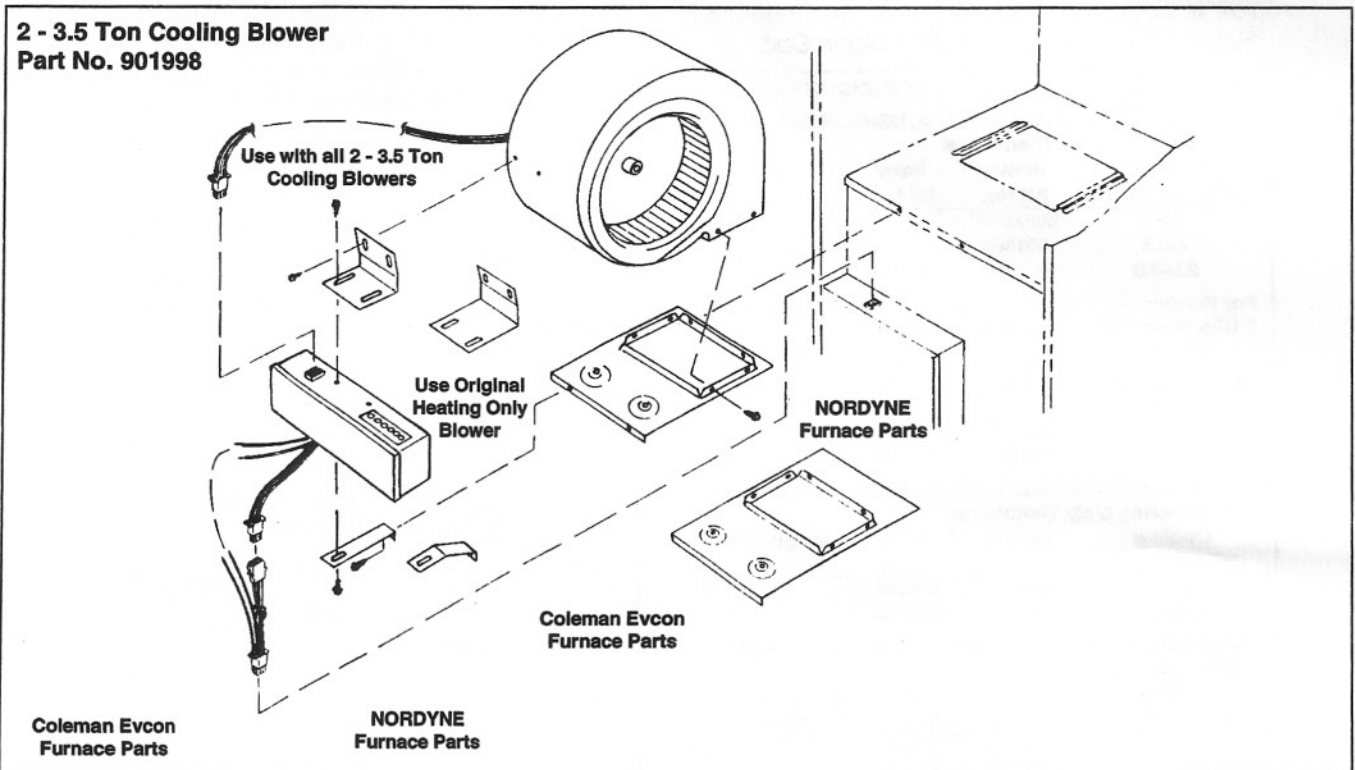
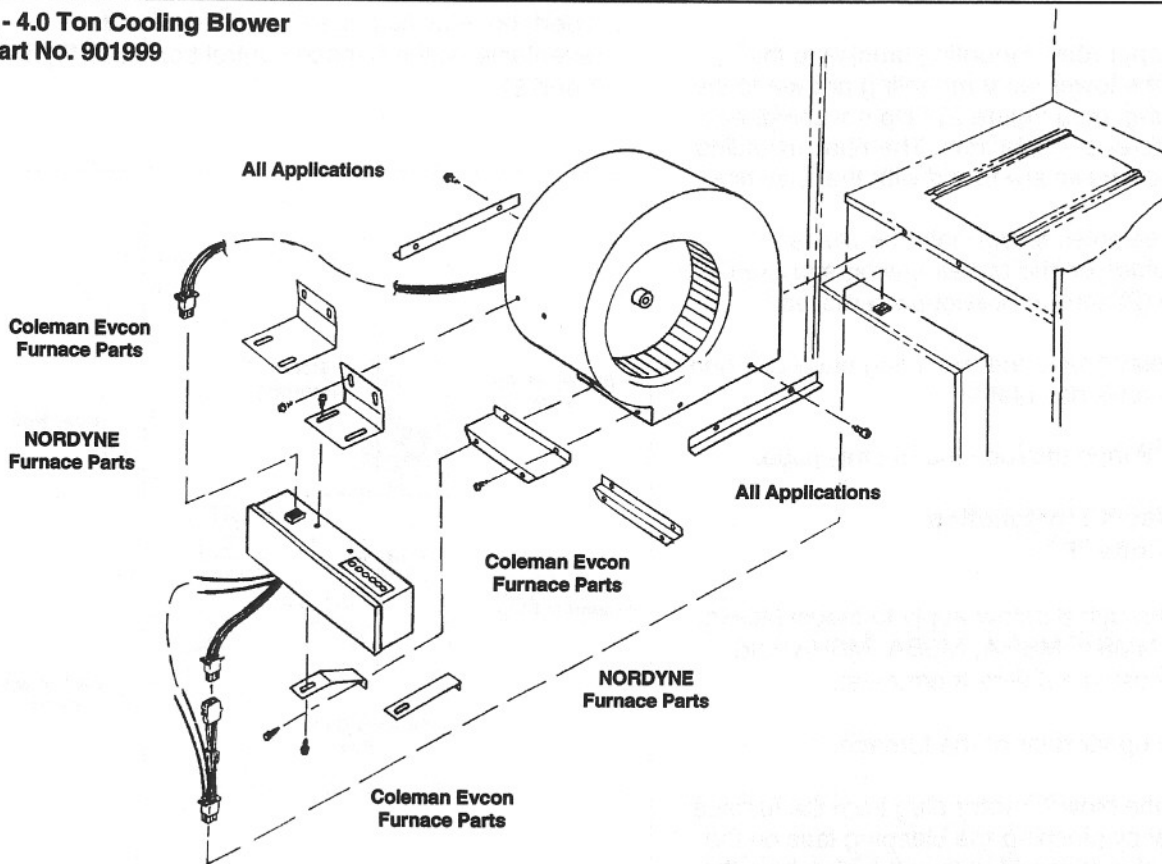
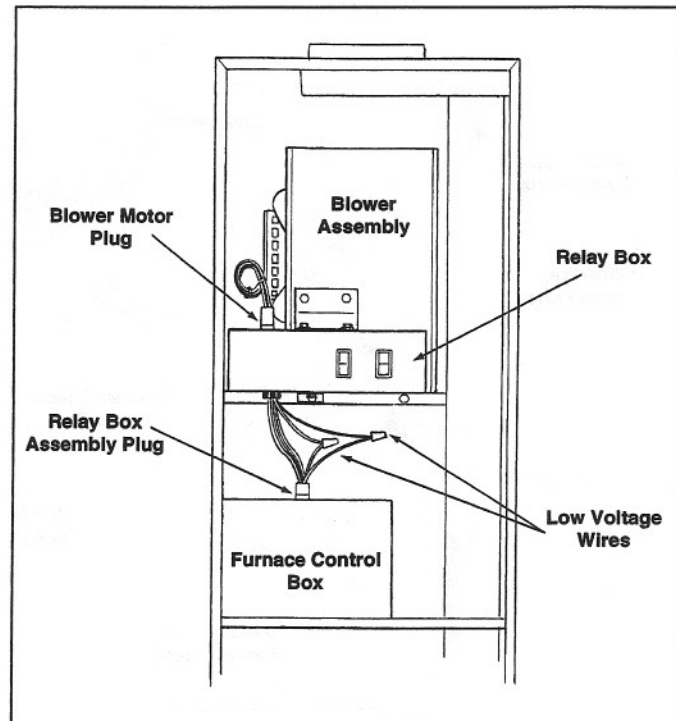

Figure 2. Cooling Blower
Figure 3. Cooling Blower
Figure 4
3. Install the upper relay mounting bracket to the blower and the lower relay mounting bracket to the furnace casing (see Figure 2). Do not completely tighten the screws at this time. The relay mounting brackets and screws are found with the relay box.
4. Mount the relay box to align with the center of the opening of the door; then tighten all screws completely. The 2 wire relay box has two (2) switches that must be accessible with the furnace door closed.
3. Disconnect the blower motor plug from the furnace control box by pinching the clasp tabs on the sides of the plug (this will unlock the plug from the receptacle) while pulling the plug straight out from the receptacle (see Figure 4).
4. Remove the two (2) screws from the front of the blower support and slide the heating blower out of the furnace.
5. Install the proper blower mounting brackets on the heat/cool blower, (see Figure 2). The blower mounting brackets are found in the blower kit.
6. Install the upper relay mounting bracket to the blower and the lower relay mounting bracket to the furnace casing (see Figure 2). Do not completely tighten the screws at this time. The relay mounting brackets and screws are found with the relay box.
7. Slide the assembled blower into the blower mounting guides on the top air casing and secure with the two (2) screws previously removed.
8. Mount the relay box to align with the center of the opening of the door; then tighten all screws completely. The 2 wire relay box has two (2) switches that must be accessible with the furnace door closed.
3. Disconnect the blower motor plug from the furnace control panel by pinching the clasp tabs on the sides of the plug (this will unlock the plug from the receptacle) while pulling the plug straight out from the receptacle (see Figure 4).
5. Install the proper blower mounting brackets on the heat/cool blower, (see Figure 3). The blower mounting brackets are found in the blower kit.
6. Install the upper relay mounting bracket to the blower and the lower relay mounting bracket to the furnace casing (see Figure 3). Do not completely tighten the screws at this time. The relay mounting brackets and screws are found with the relay box.
2. Install the upper relay mounting bracket to the blower and the lower relay mounting bracket to the furnace casing (see Figure 3).
2. Disconnect the blower motor plug from the furnace control panel by pinching the clasp tabs on the sides of the plug (this will unlock the plug from the receptacle) while pulling the plug straight out from the receptacle (see Figure 4).
3. Remove the two (2) screws from the front of the blower support and slide the heating blower out of the furnace.
4. Install the proper blower mounting brackets on the heat/cool blower, (see Figure 2). The blower mounting brackets are found in the blower kit.
5. Install the upper relay mounting bracket to the blower and the lower relay mounting bracket to the furnace casing (see Figure 2). Do not completely tighten the screws at this time. The relay mounting brackets and screws are found with the relay box.
6. Slide the assembled blower into the blower mounting guides on the top air casing and secure with the two (2) screws previously removed.
4. Install the proper blower mounting brackets on the heat/cool blower, (see Figure 3). The blower mounting brackets are found in the blower kit.
5. Install the upper relay mounting bracket to the blower and the lower relay mounting bracket to the furnace casing (see Figure 3). Do not completely tighten the screws at this time. The relay mounting brackets and screws are found with the relay box.
7. Remove three (3) bottom mounting screws from the front of the blower support and remove the side retainer screws from the left and right blower railing. Slide the blower out of the furnace. Retain the front support screws for later use in these installation instructions.
8. Install the proper blower mounting brackets on the heat/cool blower, (see Figure 2 and 3). The blower mounting brackets are found in the blower kit.
9. Install the upper relay mounting bracket to the blower and the lower relay mounting bracket to the furnace casing. ( See Figure 2 for 2 wire configurations and see Figure 3 for five wire configurations). Do not completely tighten the screws at this time. The relay mounting brackets and screws are found with the relay box.
10. Slide the assembled blower into the blower mounting guides on the top air casing and secure with the two (2) of the screws previously removed.
11. Mount the relay box to the mounting bracket. Adjust the relay box to the proper height and position; then tighten all screws completely. The 2 wire relay box has two (2) switches that must be accessible with with the furnace door closed.